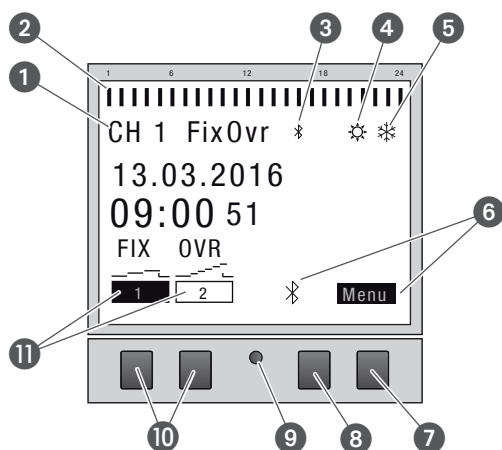

Fig. 2: Display layout
- ② Programmed switching times
- ③ Bluetooth
- ④ Summer time
- ⑤ Winter time
- ⑥ Function displays of the buttons on the right
- ⑦ Menu button
- ⑧ Bluetooth button
- ⑨ Reset button
- ⑩ Buttons on the left
- ⑪ Function displays of the buttons on the left
Function of the two buttons on the right (Fig. 2/⑦ + ⑧)
Function of the two buttons on the left (Fig. 2/10)
The menu structure appears on the display when you press the menu button (Fig. 2/7).